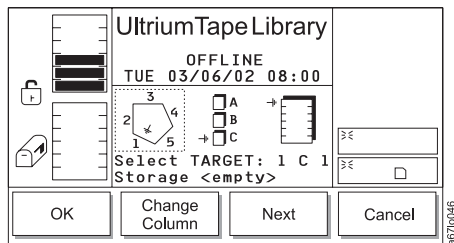
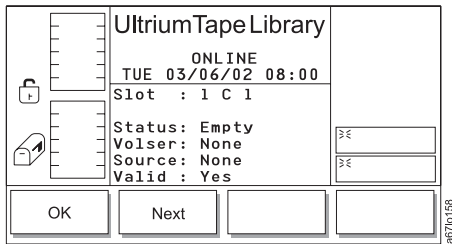

Figure 4-30. Slot Dialog
Figure 4-33. Slot Status Dialog. If you specified another slot, the new address displays in the Slot field.
3. Press the button below the **Slot** softkey. The Slot Dialog displays (see Figure 4-30) with a message area that shows three icons.
The position of the arrow in each of the three icons identifies the storage slot's physical address. For example, arrows that point to a column 1, magazine C, and storage slot 1 indicate a physical address of 1 C 1. In the Slot Dialog, a slot's physical address displays below the right icon (see Figure 4-30).
- To view information about the currently selected storage slot, press the button below the **OK** softkey. The Slot Status Dialog displays (see Figure 4-33 on page 4-21).
The screen similar to the Slot Status Dialog displays (see Figure 4-33 on page 4-21). The screen shows the new 3-character address that you specified.
To return to the Slot Dialog (see Figure 4-30 on page 4-19), press the button below the **OK** softkey.
7. To return to the Slot Status Dialog (see Figure 4-33 on page 4-21), press the button below the **Next** softkey. To return to the Slot Dialog (see Figure 4-30 on page 4-19), press the button below the **OK** softkey. To return to the Main Menu, press the button below the **OK** → **Cancel** → **Back** softkeys. Continue to press the button below the **Back** softkey until the Main Menu displays.